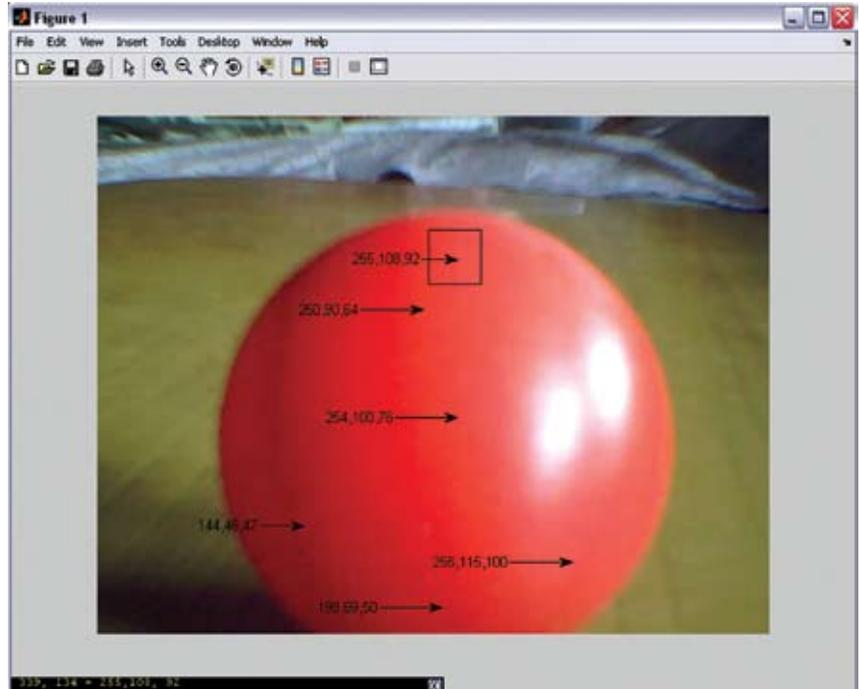

Fig. 5: Screenshot of the red ball
1. Take at least ten snaps of the red ball at various angles (refer Fig. 5)
In the screenshot shown in Fig. 5, the least value of the red component is '144.' So R\_THRESHOLD can be taken as '144.' The maximum value of the green component is '115.' So G\_THRESHOLD can be taken as '115.'